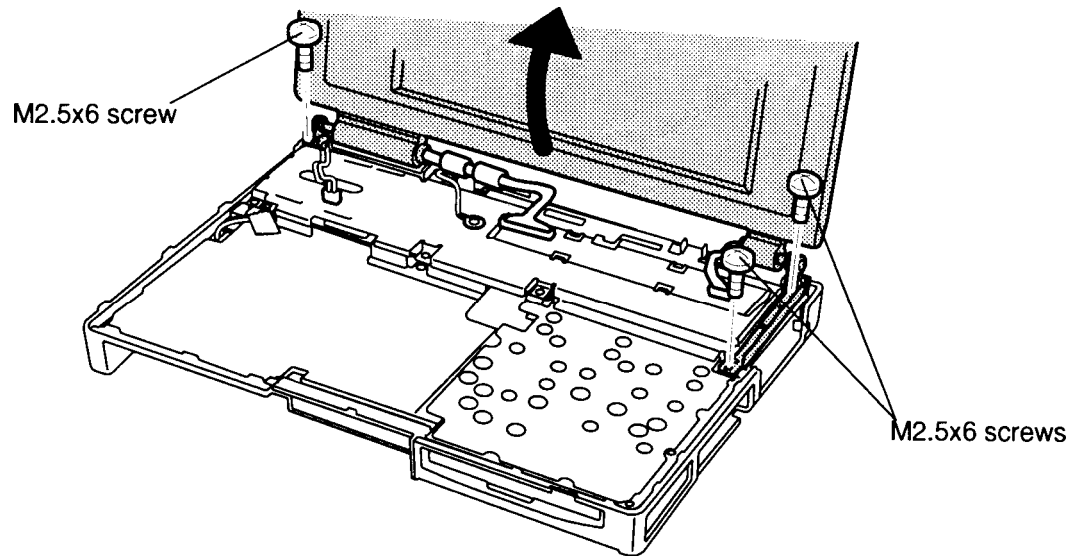

Figure 4-24 Removing the display assembly
7. Turn the computer again so the front faces you. Hold the display assembly to keep it steady and remove the **three M2.5x6 screws** securing the display hinges. Remove the screws at the corners first then remove the screw securing the hinge brace at the right side of the computer (Figure 4-24).
To install the display assembly, follow the steps below and refer to Figures 4-24 back through 4-21.
2. Hold the display to steady it and secure the **three M2.5x6 screws** for the **display hinges** to secure the display assembly (Figure 4-24). Secure the screw for the display hinge brace at the right side of the computer first, then secure the screws at the corners.